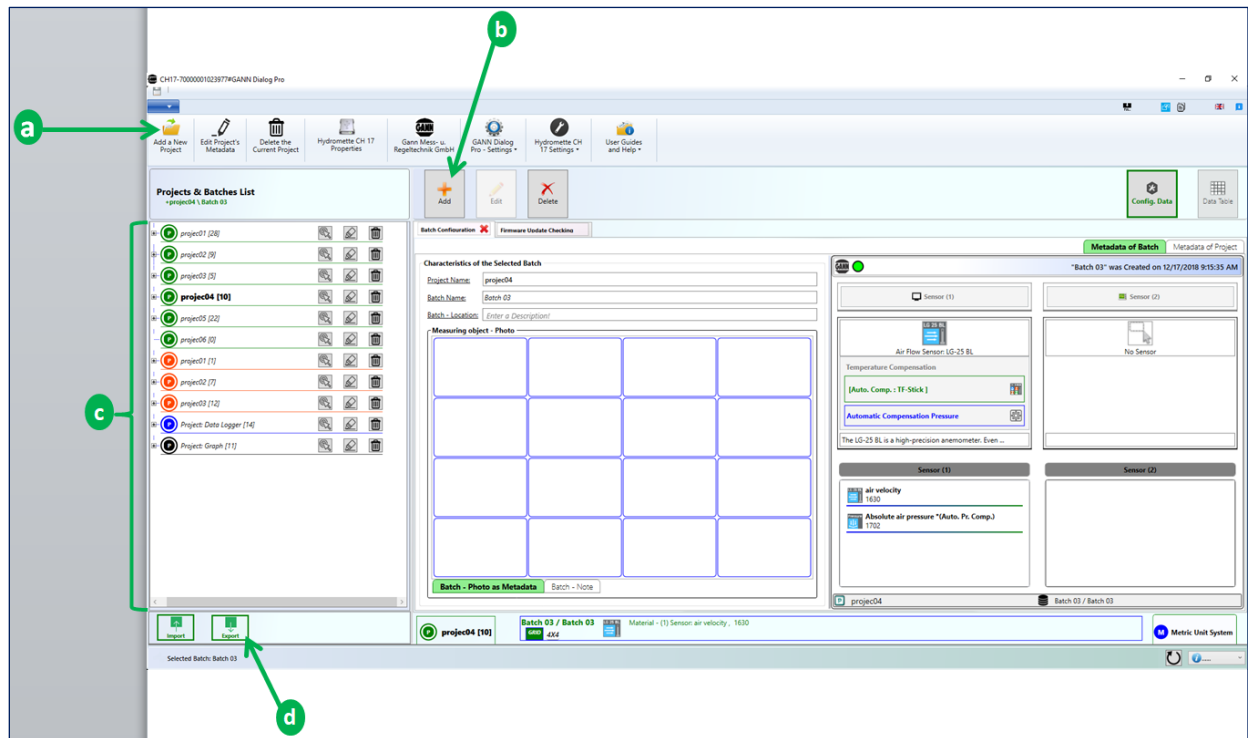

Figure 4-1: configuring a project folder
1. Add a project (a in Figure 4-1)
2. After creating a project, add a new batch to your project (b in Figure 4-1)
Repeat steps 1 and 2 until the desired number of projects and batches is reached. On the right-hand side of the screen shown in fig. 4-1 you can change settings for these batches. For more details on navigating through different projects, see chapter 9.5. More information on metadata can be found in chapter 6.
- Connect your Hydromette CH 17 to your PC (the “export” button d in Figure 4-1 will be enabled).